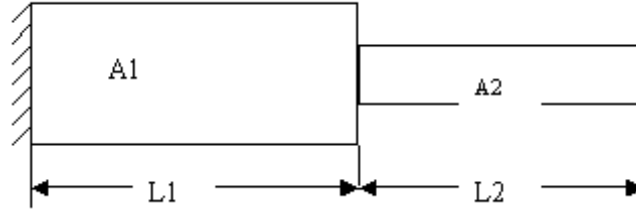

Figure 2:
7. For the stepped bar shown in the figure 2.